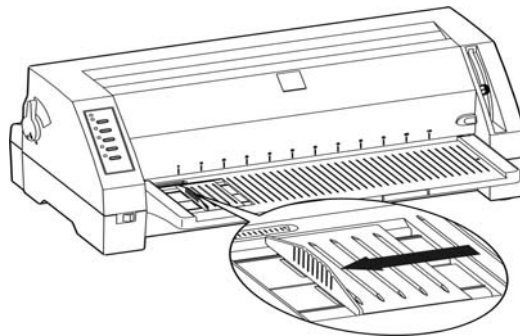

Figure 3-3 Adjusting the paper guide
- 4 Position the left cut sheet guide by referring to the marking on the window cover. The positions for A4 and Letter size paper are indicated on the left side of the window cover as shown in Figure 3-3.